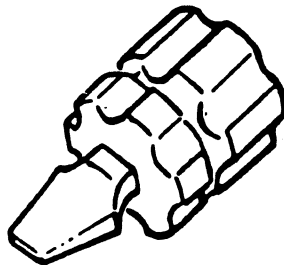

Fig 1-14. Flat tip screwdriver.
i. Flat tip screwdriver (fig 1-14); a flat tip screwdriver located in the sight case is provided if you need to loosen the screws on the sight when boresighting.